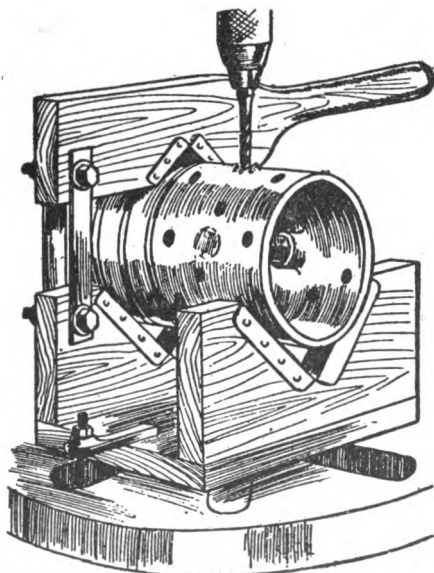

Fig. 50. A Home-Made Wooden Stand to Facilitate Drilling Out Pistons
*Clamp for Pistons.* The first requisite is a clamp, Fig. 50, to keep the piston from turning, so that it will not break the drill. A good way to begin is to construct a base with a pair of uprights having deep 90-degree V's in them; this is made so that it can be